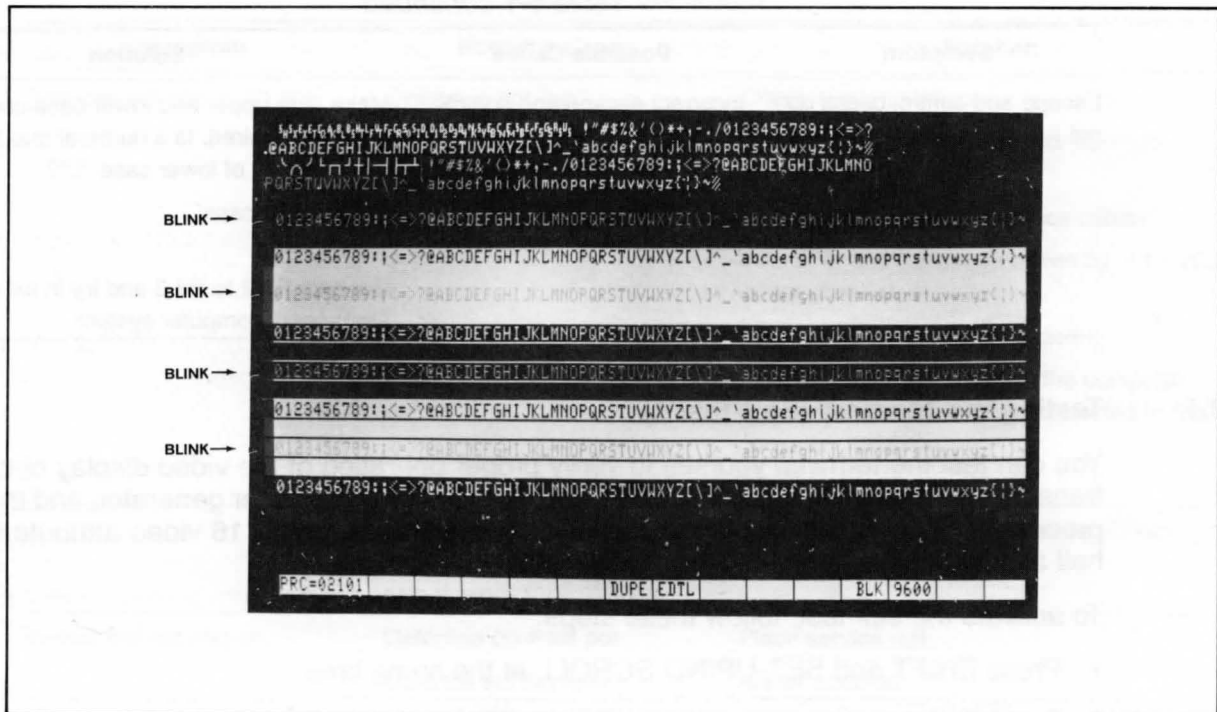

Figure 5-1 Normal Screen During Self Test 1
3. Verify that the screen appears as shown in Figure 5-1. It should contain twenty lines with all the characters and attributes displayed. All characters should appear, and all video attributes and half-intensity characters should appear as shown. Each character should be formed properly; you should not see any extra dots and no dots should be missing.